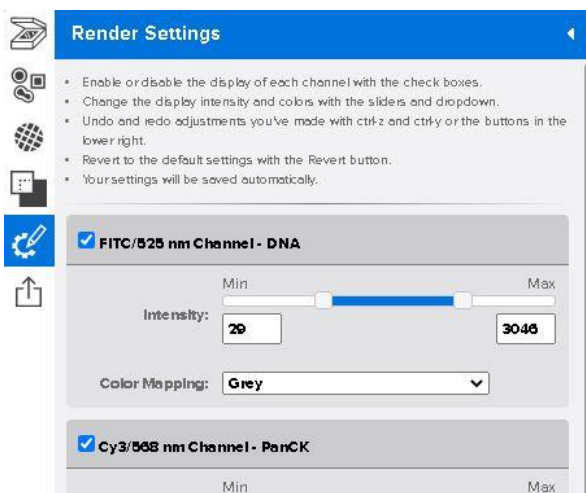

Figure 24: Scan Workspace Render Settings menu
- Open **Render Settings** (see Figure 24). Here, you can: